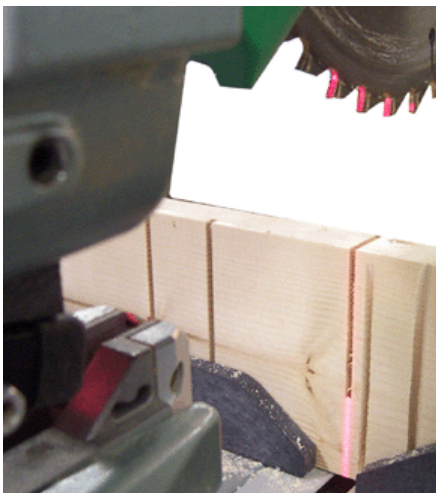

Figure 3. Beam hitting the back of the board at the bottom of the slot only.
7. Turn the laser on and, without removing the adhesive cover, place the laser against the bracket or mounting surface and point the laser through the slot at the divot in the wood. Use the angular adjustment to align the beam vertically through the slot onto the divot. You do not need to remove the rubber band to adjust the angle; simply push right or left on the top of the bump made by the adjustment knob. The laser must be emitting directly in line with the blade. Notice the red beam on the back of the saw teeth in Figure 3 below.